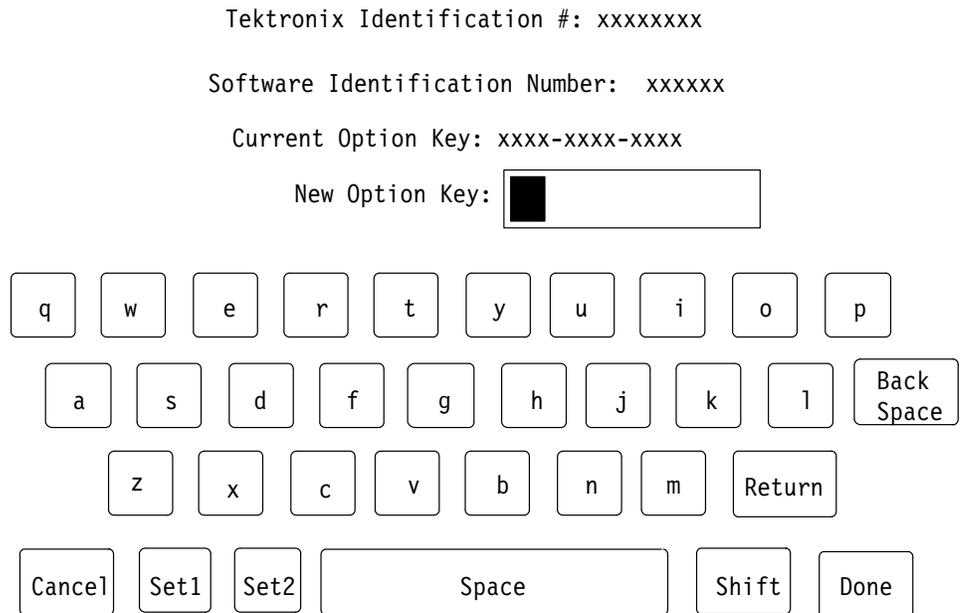

Figure 4: Option key control menu
2. After the instrument boots up (see Figure 1), touch the display screen to enter the new option key. See Figure 4.